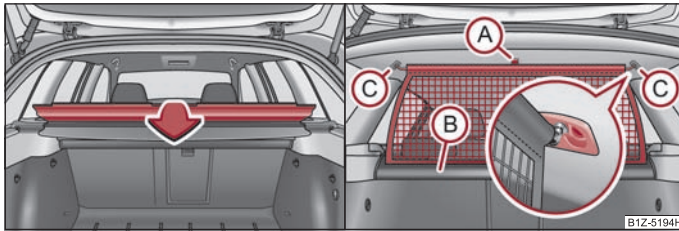

Fig. 62 Folding down the storage compartment cover/pulling out the net partition
- Fold down the storage compartment cover behind the rear seats ⇒ fig. 62 - left.
- Pull the net partition at the bracket (A) out of the housing (B) in direction of the holders (C).
- Insert the cross rod into one of the mounts (C) and push the cross rod forwards.
- In the same way, fix the cross rod to the other side of the vehicle, mount (C).
- Fold down the storage compartment cover behind the rear seats ⇒ fig. 62.
- Pull the cross rod back slightly, first on the one side then on the other side and take the cross rod out of the mounts (C).
- **Hold** the cross rod in such a way that the net partition can roll up slowly and without damage into housing (B).